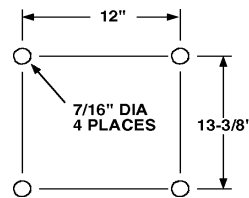

FIGURE B-3. MOUNTING HOLE DIMENSIONS
1. Prepare the mounting location of the compressor by locating and drilling four (4) holes, 7/16" diameter, as shown in Figure B-3.